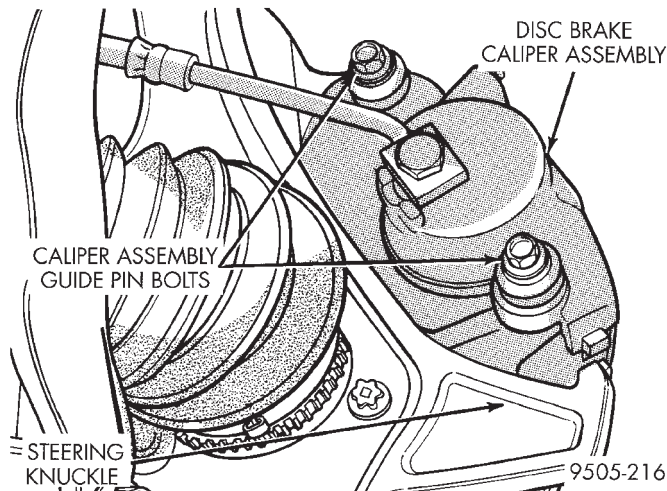

Fig. 14 Front Disc Brake Caliper Mounting
(5) Remove front disc brake caliper to steering knuckle guide pin attaching bolts (Fig. 14).
(10) Install disc brake caliper assembly to steering knuckle guide pin bolts (Fig. 14). Tighten caliper assembly guide pin bolts to a torque of 22 N-m (16 ft. lbs.).